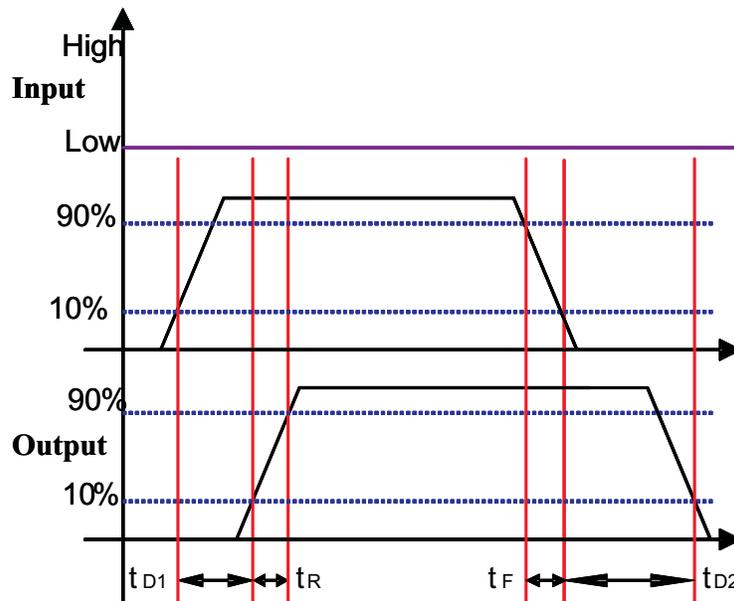
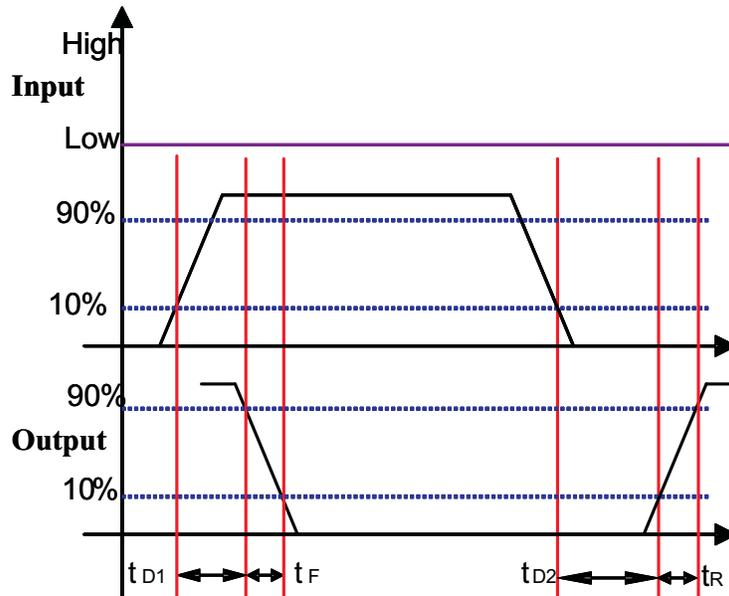

Figure 1. Non-Inverting Configuration
Figure 2. Inverting Configuration
(1) Device operational with output switching.
(2) Ensured by Design, Not tested in Production.
(3) See Figure 1 and Figure 2 timing diagrams.